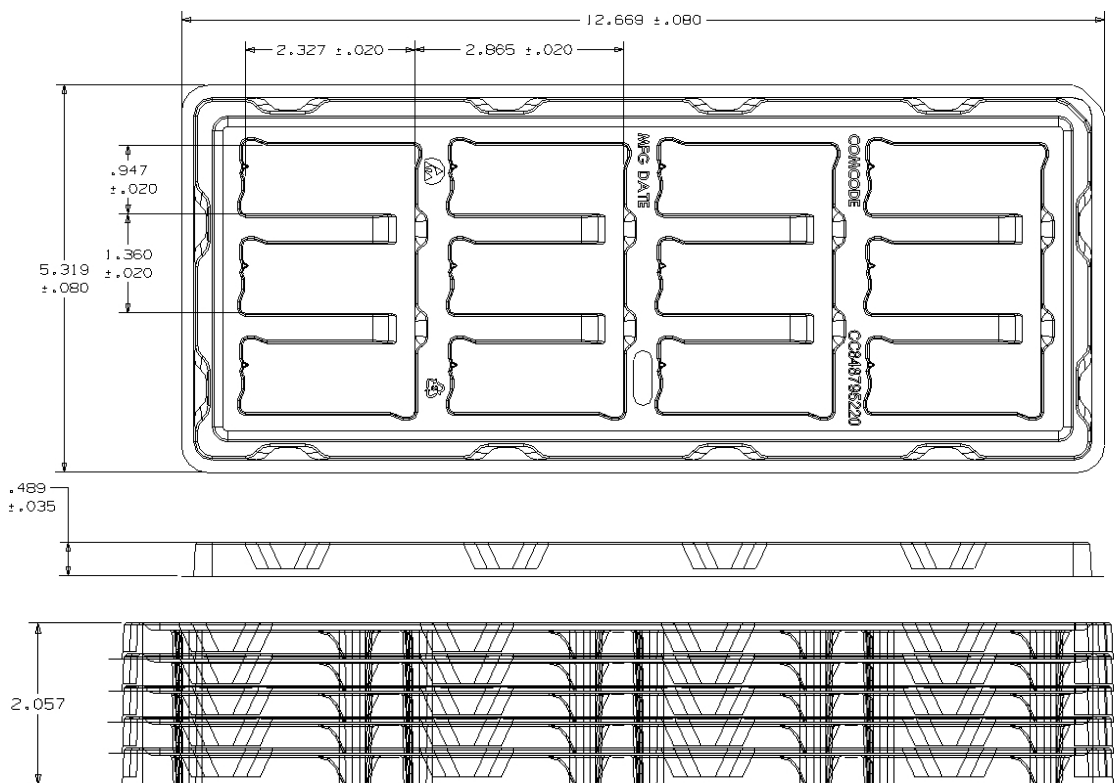

Figure 68. Surface Mount Packaging Tray.
The surface mount versions of the EQW surface mount modules (suffix -S) are supplied as standard in the plastic tray shown in Figure 68. The tray has external dimensions of 135.1mm (W) x 321.8mm (L) x 12.42mm (H) or 5.319in (W) x 12.669in (L) x 0.489in (H).